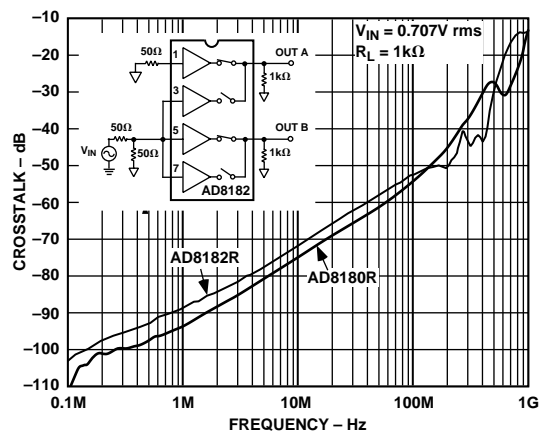

Figure 13. All-Hostile Crosstalk vs. Frequency
- 6Select input which is not being driven (i.e., if SELECT is Logic 1, input activated is IN1); drive all other inputs with  $V_{IN} = 0.707$  V rms and monitor output at  $f = 5$  and 30 MHz.  $R_L = 1$  k $\Omega$  (see Figure 13).